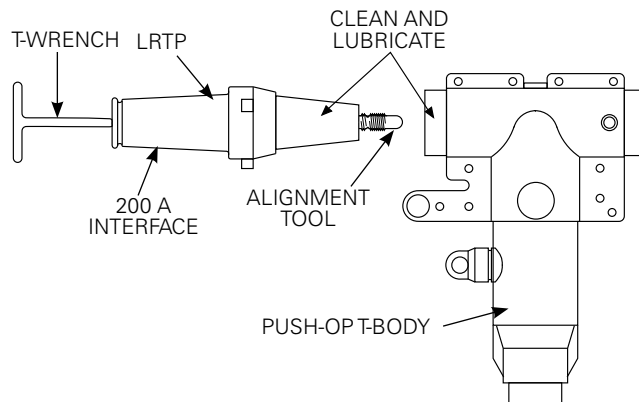

Figure 13. LRTP installation into T-body.
- Insert the 600 A alignment segment end of the LRTP into the side of T-body opposite the apparatus bushing. (Refer to Figure 13.)